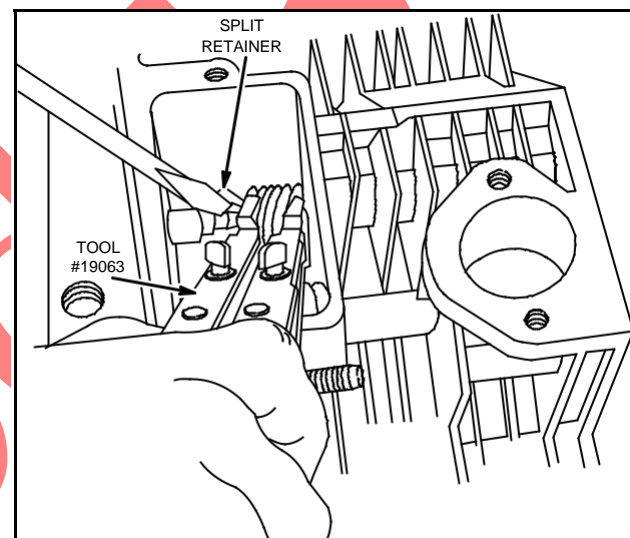

Fig. 8 – Removing Retainers – Exhaust
4. Remove exhaust valve from guide. Then, remove exhaust valve spring and compressor, Fig. 8.